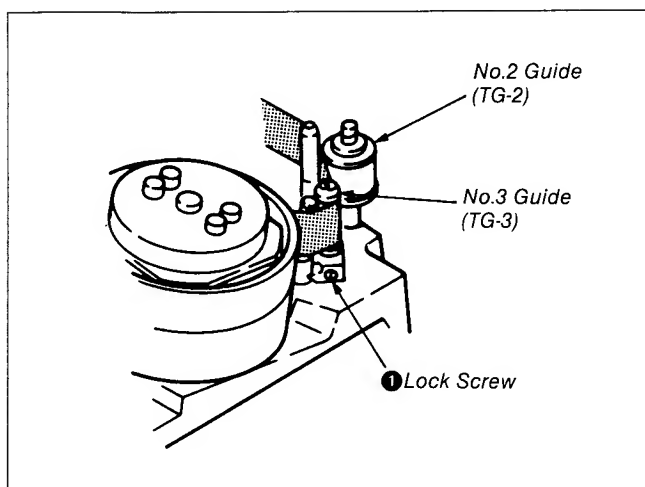

Fig. 8-56.
- 3) Loosen the lock screw ❶ of the No. 3 guide (TG-3) and turn the No.3 guide to make flat the waveform at the inlet side. (Refer to Fig. 8-56.)
- 2) Confirm whether or not the waveform is flat. When it is not flat, turn the No.3 and No.6 guides (TG-3 and TG-6) to make it flat. (Refer to Fig. 8-56, 8-57)